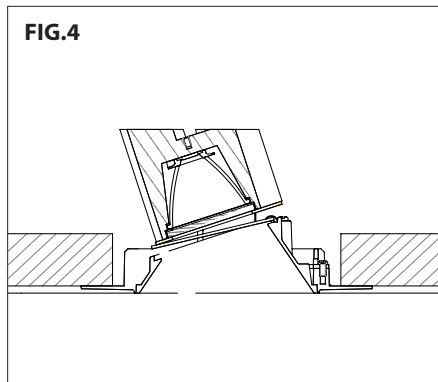

FIG.5
c. Pull the other side of the trim (**FIG.5**)